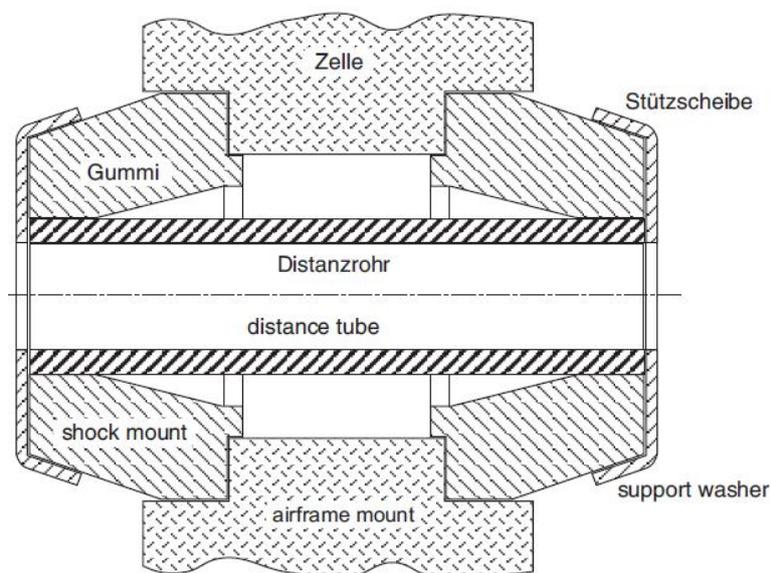

Fig. 10
**NOTE:** The fig. 10 shows rubber mount.